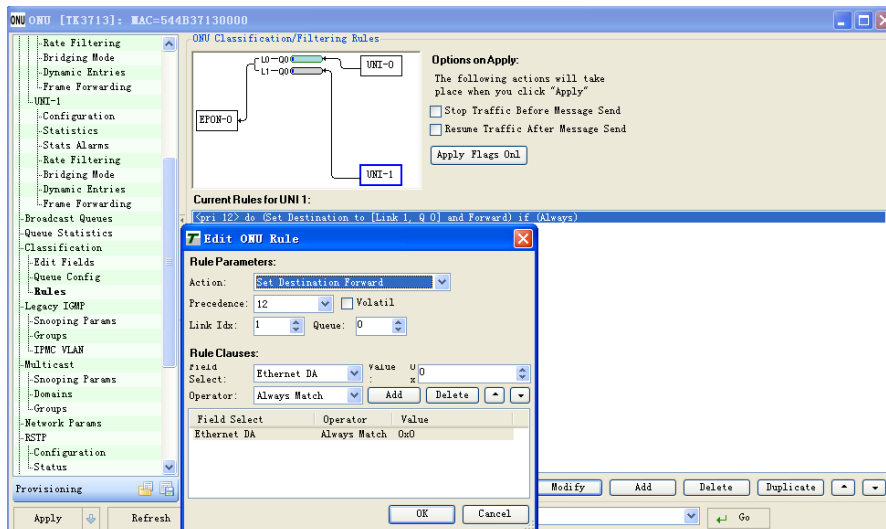

Figure 8-14 Modify Rules
- 2) Select the default link and then click Modify to display the window of Edit ONU Rule shown in the Figure 8-14;